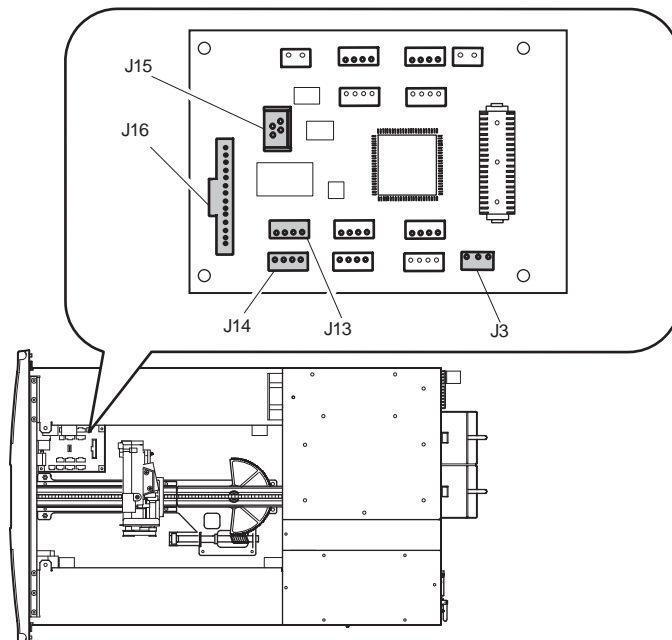

Figure 2-7: Control panel board
4. Locate the control panel board at the bottom of the library chassis behind the front panel (see Figure 2-7).